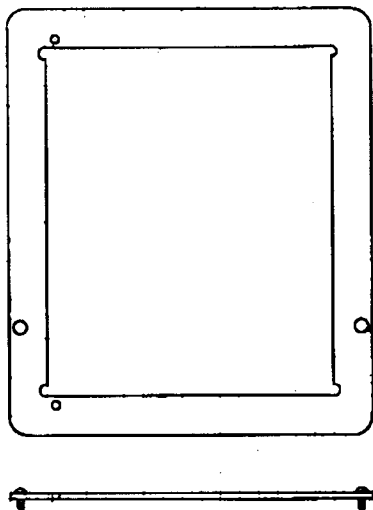

Fig. 3. Gel frame.
6. Position the frame (Figure 3) in the electrophoresis cell by placing the two plastic pins into the bottom set of holes (toward the “T” connector) in the floor of the cell so that the frame is centered (center hole in each group of three holes). Place the gel and platform assembly into the frame so that the bottom of the platform rests on the floor of the cell. Do not remove the gel from the platform.
6. The frame (Figure 3) can be positioned for either a 21 cm long gel (14 cm wide) or 21 cm wide gel (14 cm long) by changing the position of the frame within the cell.
For the **long** gel, place a plastic pin (four are provided) in holes 1 and 2 (Figure 3). Position the frame in the electrophoresis cell by placing the two plastic pins into the bottom set of holes (toward the “T” connector) in the floor of the cell so that the frame is centered (center hole in each group of three holes). Place the gel and platform assembly into the frame so that the bottom of the platform rests on the floor of the cell. Do not remove the gel from the platform.
For the **wide** gel, place a plastic pin in holes 3 and 4 (Figure 3). Position the frame in the electrophoresis cell by placing the two plastic pins into the bottom